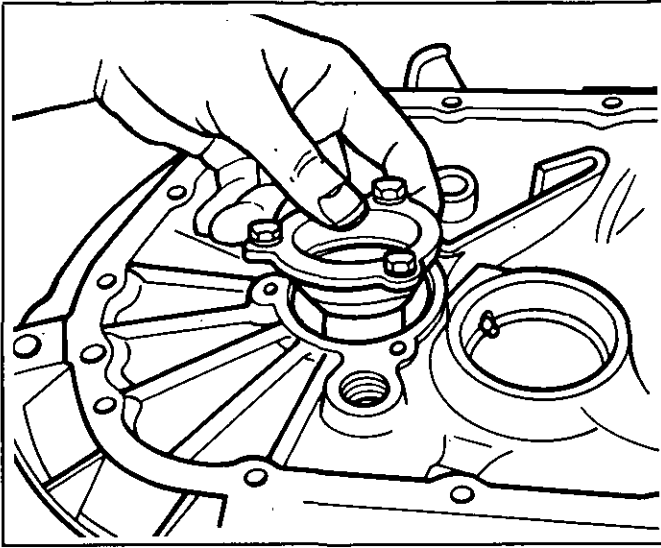

Figure 35 Removing Release Bearing Sleeve
3. Remove three bolts securing the input gear bearing retainer (release bearing sleeve). Remove the sleeve. Tap carefully as necessary (Figure 35).